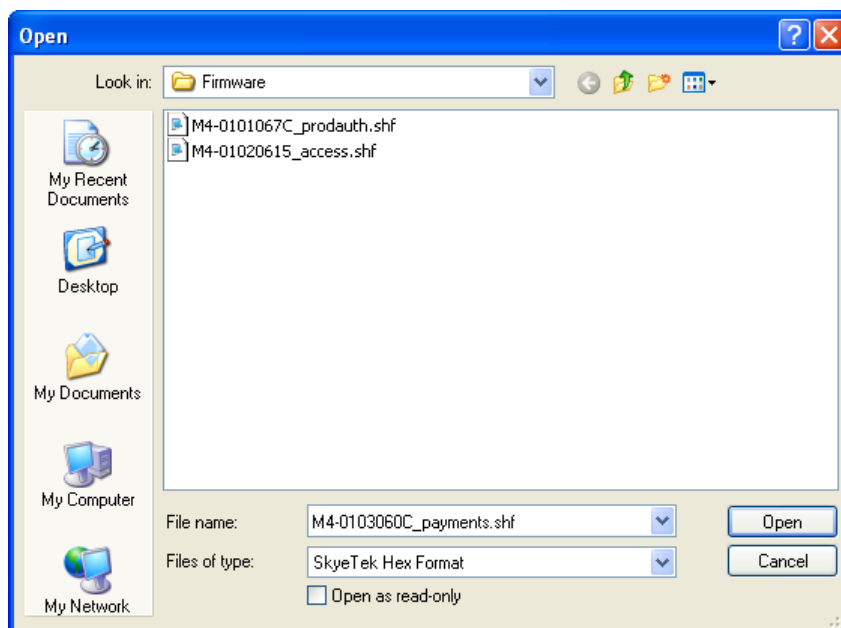

Figure 5-8 Firmware Personality Files
3. Click on the firmware (.shf) file for the personality you want to install (Figure 5-8).